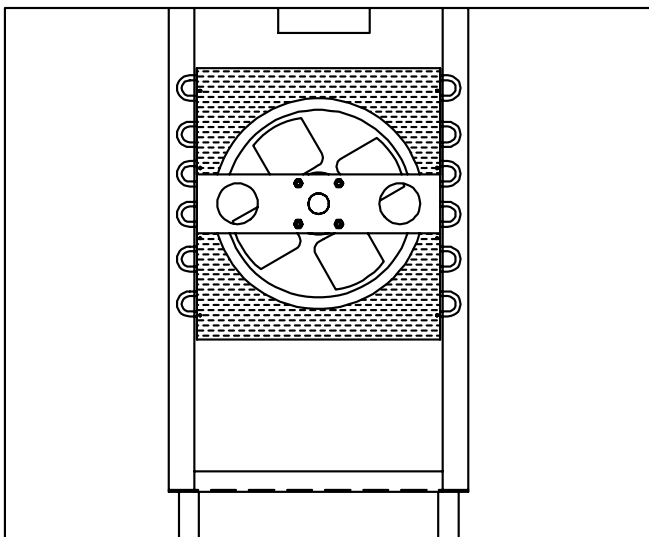

Figure 33. Check Condenser
3. Visually inspect the condenser for dirt by shining a light through the coil from the back of the condenser (Fig. 33.)